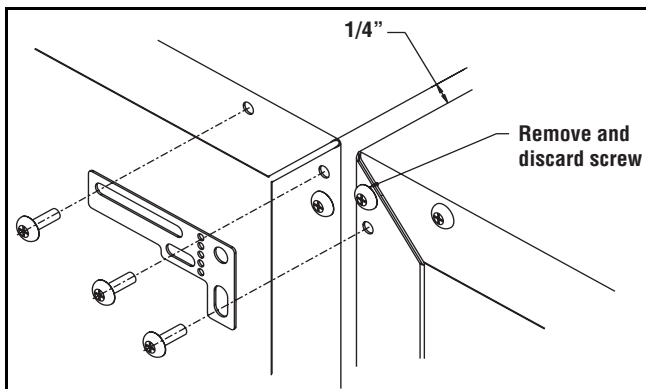

Figure 31
1. Remove screws shown (**Figure 31**).